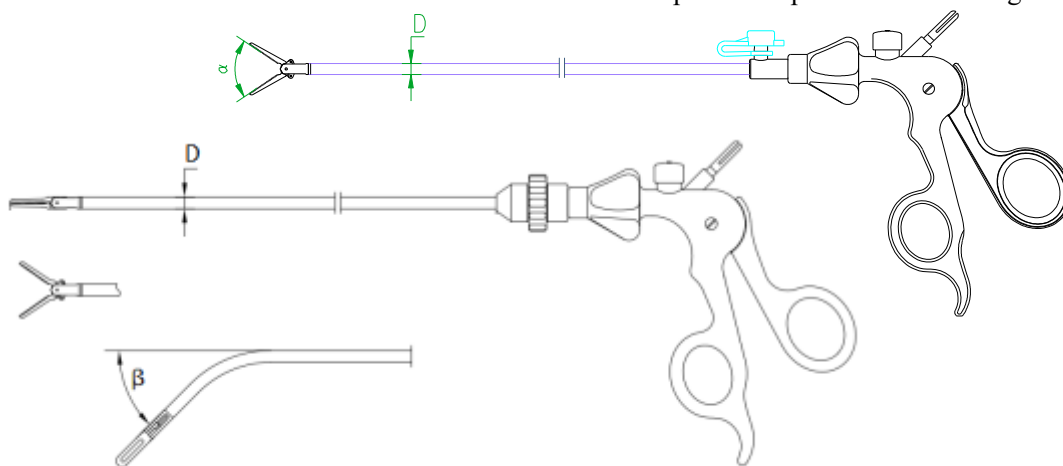

Fig.4 Structure diagram of Monopolar Grasper
D. The outline structure and basic dimensions of Monopolar Grasper are shown in Fig.4 and Table 4.